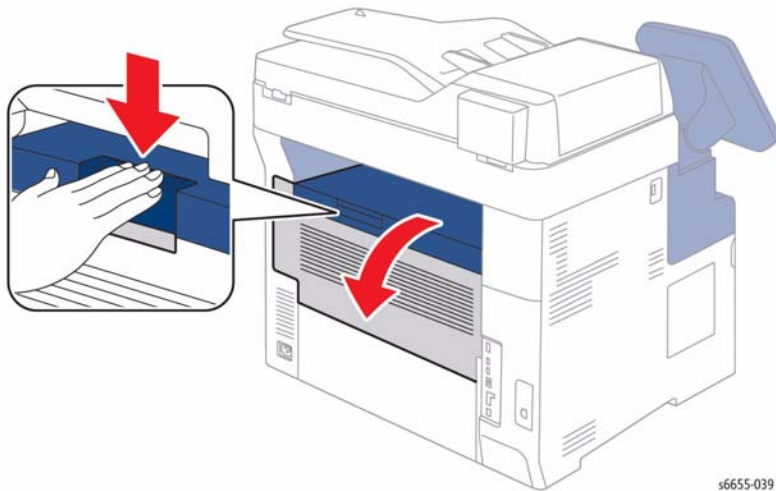

Figure 1 Open the Rear Door
2. Push down on the rear door release and pull open the door, Figure 1.